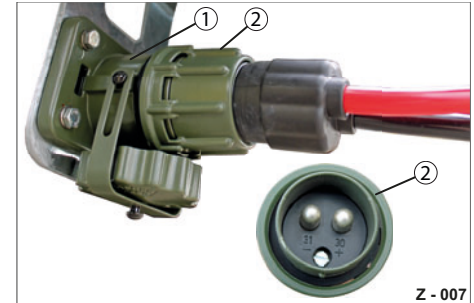

Abb. 17 Power supply connected
► Plug the NATO connector (Abb. 17/2) into the NATO socket (Abb. 17/1) and screw the connection tight.